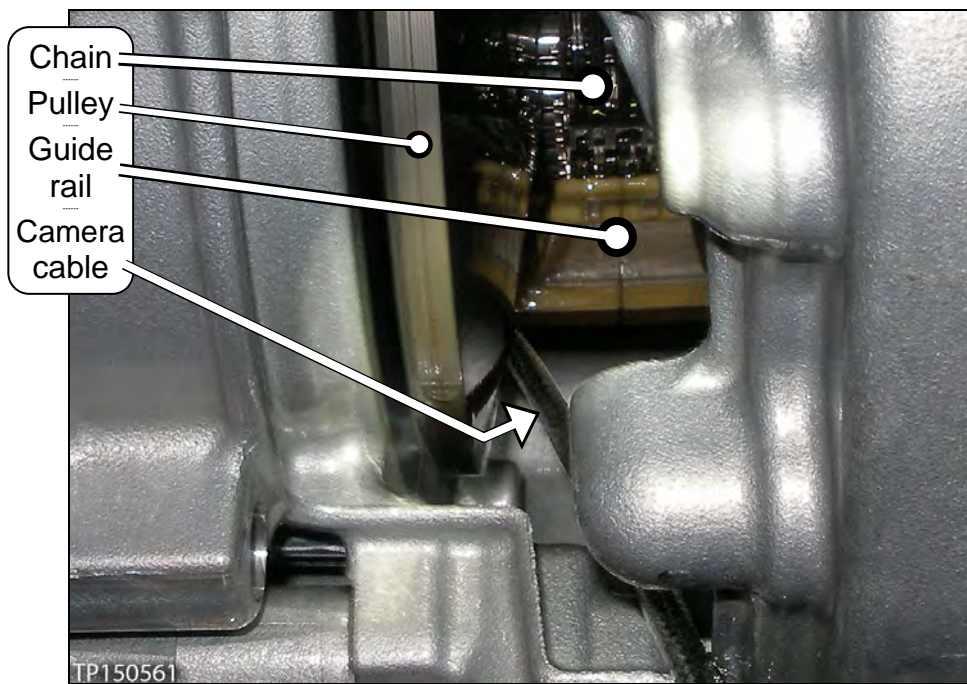

Figure 8
- Figure 8 shows where to insert the camera lens on the driver side of the chain.